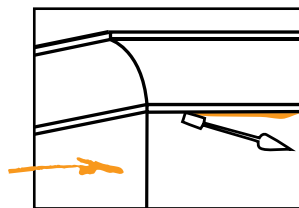

FIGURE 65
- Clean off excess and remove nails when cement has partially set [Figure 65]